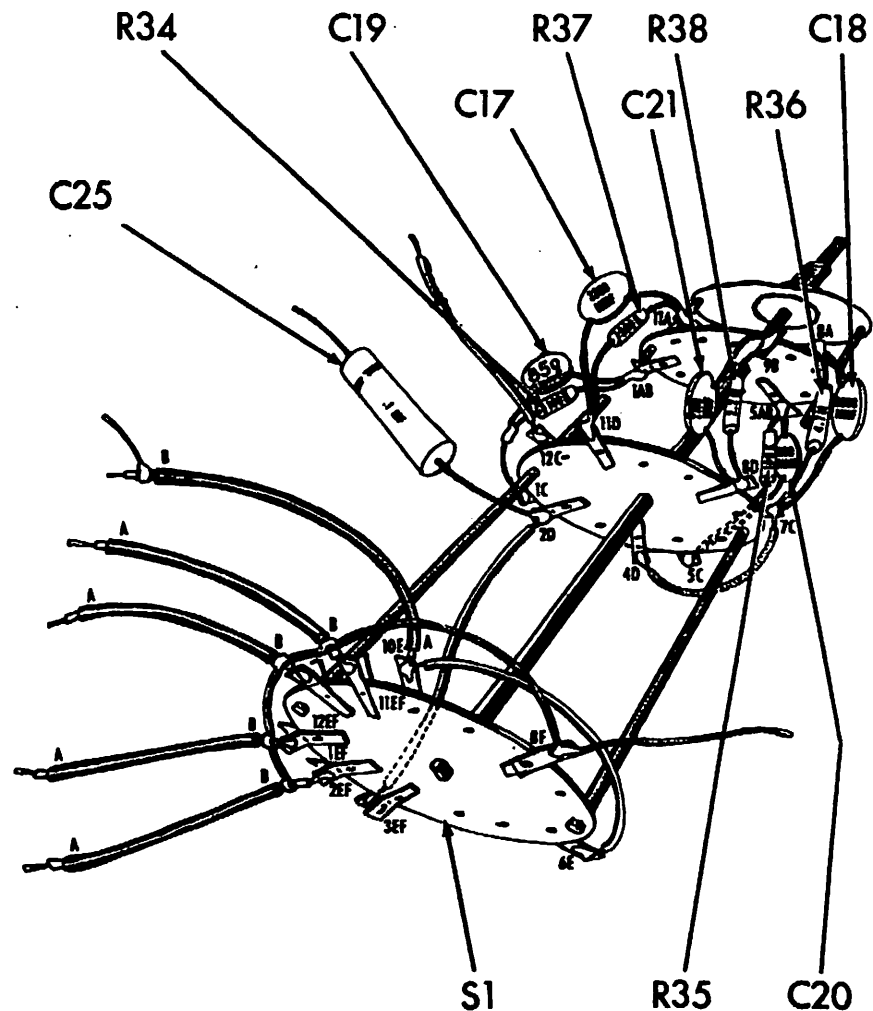

Fig. 2
() Fig. 2. Connect an 850mmf capacitor, C19, and a 100K 5% resistor, R34, from 1B (S) to 1C (S).
() Fig. 2. Connect a 500mmf capacitor, C20, and a 100K 5% resistor, R35, from 5C (S) to 5B (S).
() Fig. 2. Connect a 5000mmf 10% capacitor, C18, and a 4.7meg resistor, R36, from 7C (C) to 8A (S).
() Fig. 2. Connect a 2700mmf capacitor, C21, and a 2.2 meg resistor, R38, from 8D (S) to 9B (S).
() Fig. 2. Connect a 3300mmf capacitor, C17, and a 560K resistor, R37, from 11D (S) to 11A (S).
() Fig. 2. Connect a blue lead from 4D (S) to 7C (S).
() Fig. 2. Connect a 2" blue lead to 12C (S). Leave the other end free.
() Fig. 2. Connect one end of a .1mfd 20% capacitor, C25, to 2D (C). This lead should be only 1" long. Leave the other end free.
() Fig. 2. Connect a bare lead from 2D (S) to 3E (S).
() Fig. 2. Connect a 2" blue lead from 10E (C) to 6E (S).
() Fig. 2. Connect a 5" piece of bare wire to 8F (C). Leave the other end free.
() Fig. 2. Cut four 5" length of shielded cable. On one end of each, strip back the braided shield and outer insulation 3/4". Strip back the inner insulation 3/8". (Call this end "A".) On the other end of each (end "B"), the outer insulation is stripped back 1", the braid shield 3/4", and the inner insulation 3/8".
() Fig. 2. Connect the inner leads of the four cables (end "B"), so that one connects to each of the following four switch terminals:
() Fig. 2. Cut a 5" piece of bare wire. Wrap this wire one turn around the exposed outer braid on the "B" end of each of the shielded cables now connected to 2F, 1F, 12F, and 11F consecutively and in that order, leaving 3/8" of bare wire between wrappings. Solder the bare to the outer braid on each cable quickly with a hot, clean iron so as to minimize heating of the cable insulation. Connect the free end of the bare wire (coming off the braid of the cable connected to 11F) using spaghetti, to 8F (S).
() Fig. 2. Cut a 6" length of shielded cable. On one end, strip back the braided shield and outer insulation 3/4". Strip back the inner insulation 3/8". (Call this end "A".) On the other end (end "B"), the outer insulation is stripped back 1" the braided shield 3/4" and the inner insulation 3/8". On end "B", wrap one turn of a 2" piece of bare wire around the braided shield and solder with a minimum of heat. Connect the inner lead of end "A" to 10E (S). Leave end "B" and the small piece of bare wire free.